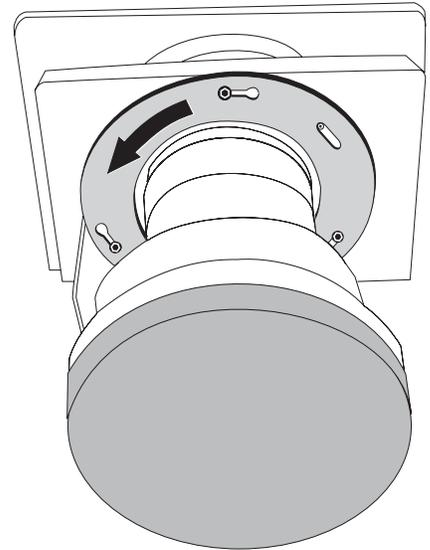

Figure 4.11. Rotate slightly
- Using both hands, rotate the lens barrel counterclockwise until the screw heads align with the larger end of their slots on the lens. See Figure 4.11.